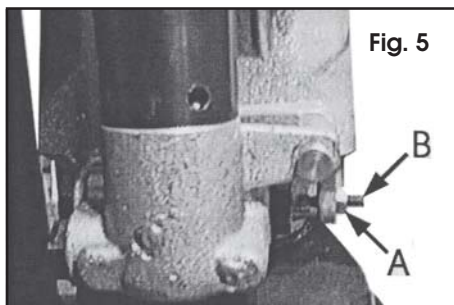

Fig. 5
4. If the forks rise but lower immediately you stop pumping or only lift slowly, slacken the locknut 'A' and screw the adjuster 'B' anticlockwise half a turn as shown in Fig 5 and try again.
5. If the forks do not lower when the control handle is in the LOWER position, turn the adjusting screw (A) in clockwise until the handle lowers the forks. Tighten locknut 'B'. Check it's operation in the TRANSPORT position.